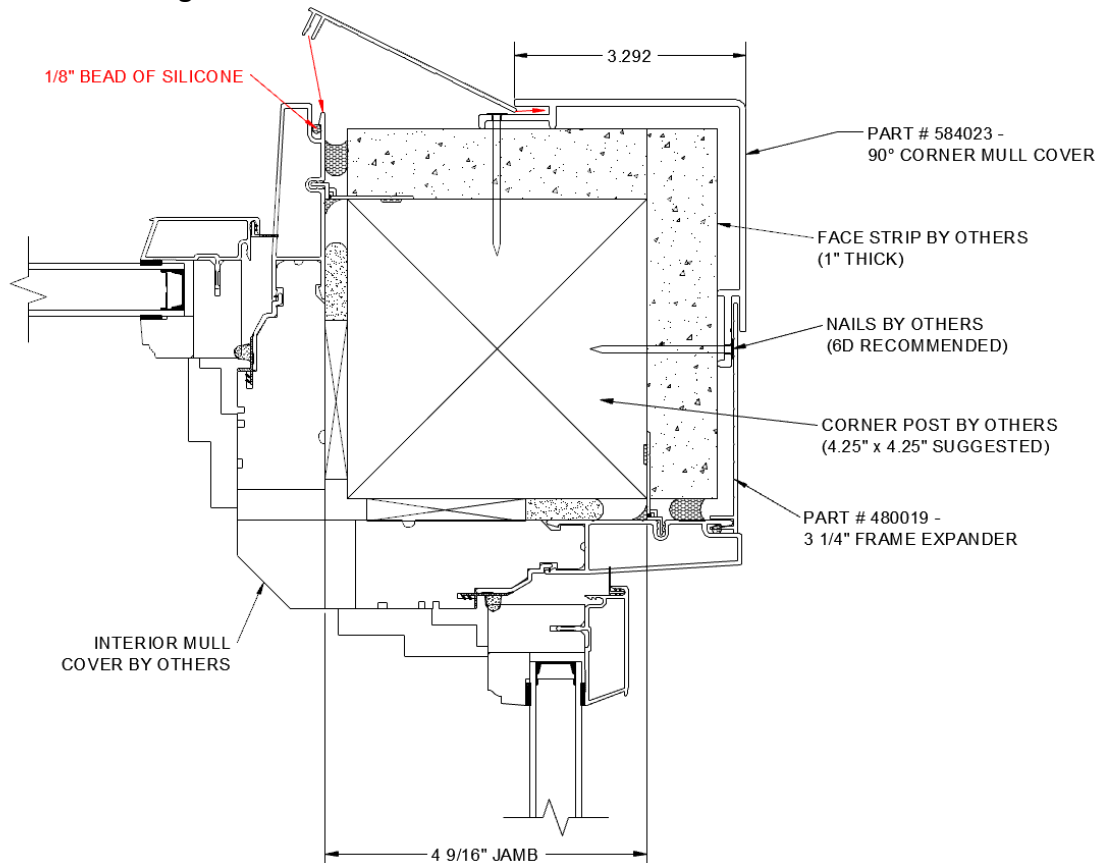

Figure 3: Frame expander installation.
- c. Apply a 1/8" bead of silicone in accessory groove of unit as shown below in Figure 3.
- 6) Insert a 3 ¼" frame expander (sold separately; part # 480019) into mull cover and into accessory groove of unit as shown below in Figure 3.